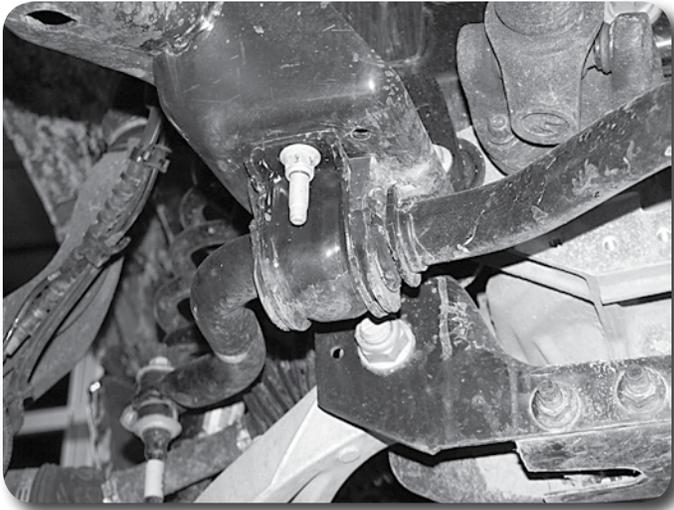

Figure 8
15. Remove the four sway bar mounting nuts and remove the sway bar from the vehicle (Figure 8). Retain hardware.